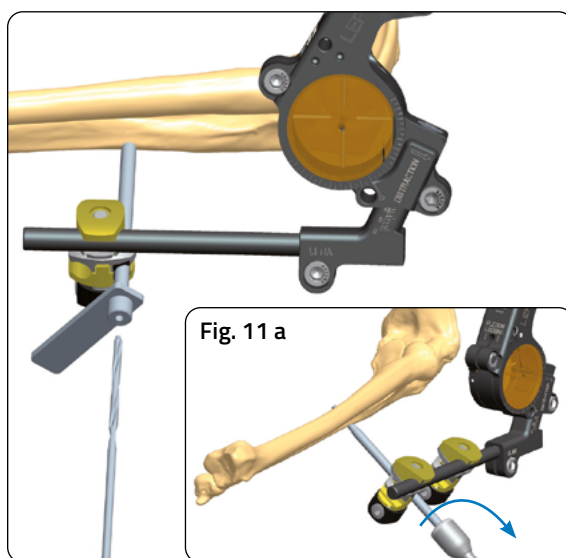

Fig. 11
8) Choose a 9mm rod of appropriate length, lock it to the Elbow Hinge and attach a 9mm clamp to it. With the forearm in neutral position or pronation, align the Ulnar Rod with the Ulna Shaft. The Ulnar Screws may reach the shaft from the lateral side or from a slightly latero-dorsal side. A minimum of 2 screws are necessary. The screws should be well spaced for mechanical stability and positioned using the Galaxy Medium Clamps. For predrilling, insert the 3.2mm drill guide (11116) directly into the screw seat of the clamp and drill with the 3.2mm drill bit (11003) **(Fig. 11)**.